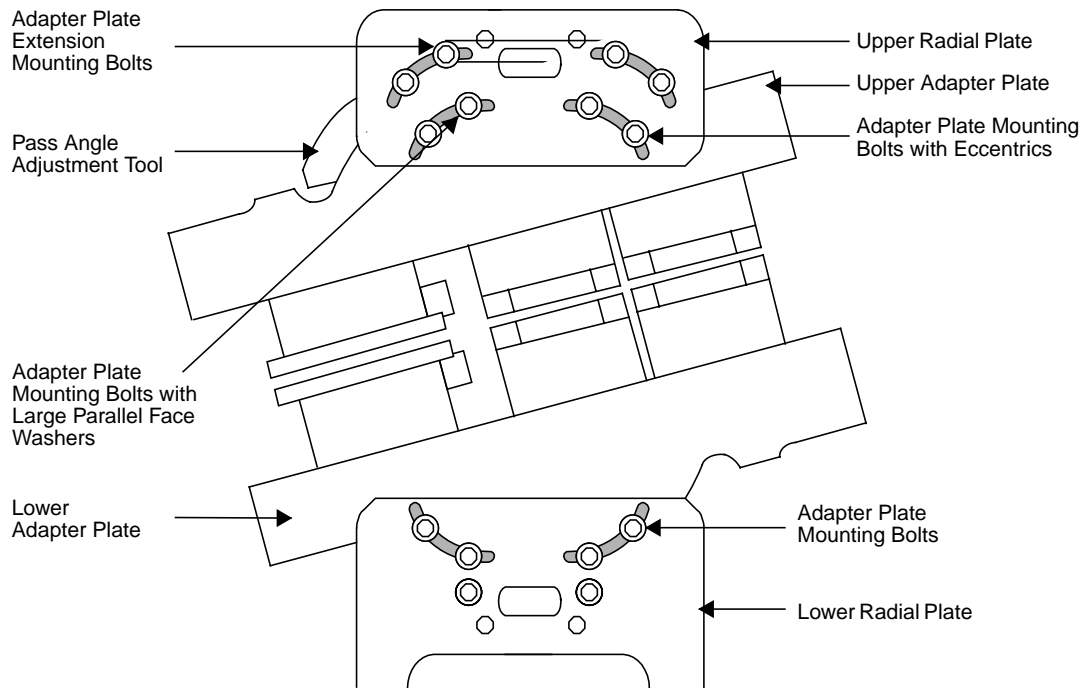

Figure 3-11 Pass Angle Adjustment
This procedure describes how to make adjustments to the pass angle. To insure proper alignment of the sensor carriage assembly, you will perform a process direction alignment and an air gap alignment at the same time. Refer to Figure 3-11.
6. Remove the lower carriage electrical enclosures on both sides of the carriage. See Figure 3-11.
- Tighten the four locking M8 bolts (lower adapter plate mounting bolts) on each side of the bottom carriage. See Figure 3-11 on page 46.
- Remove the top cover and electrical enclosures from each side of the upper head. See Figure 3-11.
- Loosen upper adapter plate mounting bolts with parallel face washers and remove the mounting bolts with eccentrics. See Figure 3-11.
- Loosen the adapter plate extension mounting bolts. See Figure 3-11.
18. Tighten the upper adapter plate extension mounting bolts. See Figure 3-11 on page 46.